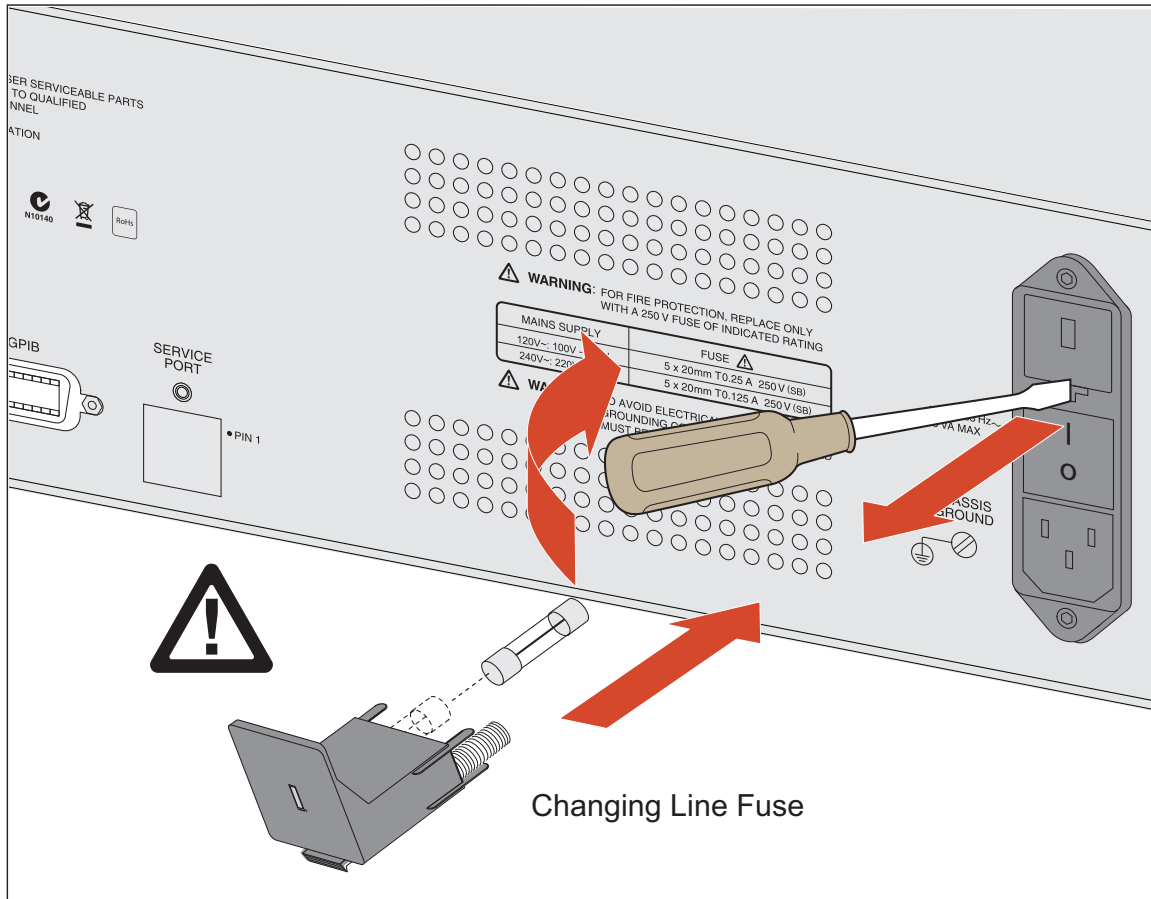

Figure 1. Replace the Line Fuse
2. Use a flat-head screwdriver to pry up the tab at the base of the line fuse compartment. Insert the blade into the center slot under the tab. The compartment cover will come part way out. See Figure 1.